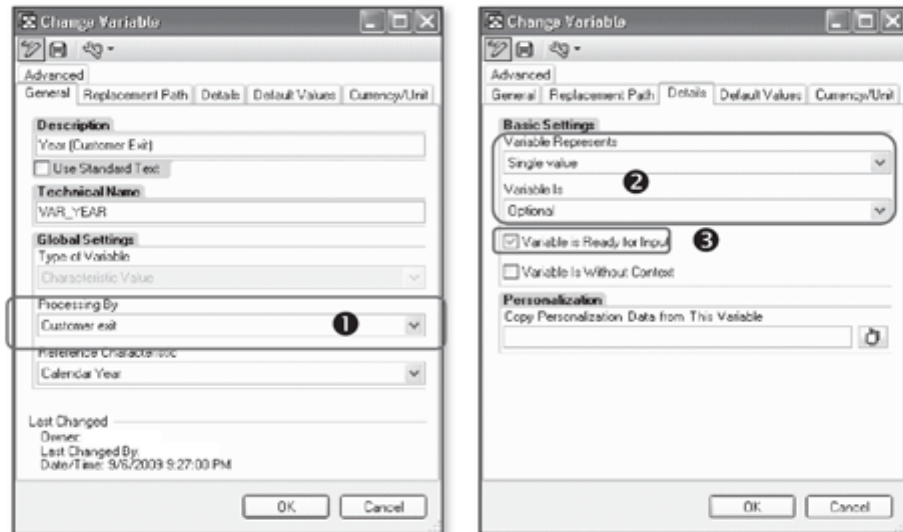

Figure 9.31 Define Variable with Customer Exit Processing Type
To address this requirement, you can create a variable based on the characteristic year with the customer exit processing type (❶ of Figure 9.31). A customer exit
Define the variable as shown in Figure 9.31. The query has to be run for one year only, so the variable should represent a single value (2). Note that because a user wants to decide on the year value for which the query should be executed, you have to select the Variable Is Ready for Input checkbox (3).